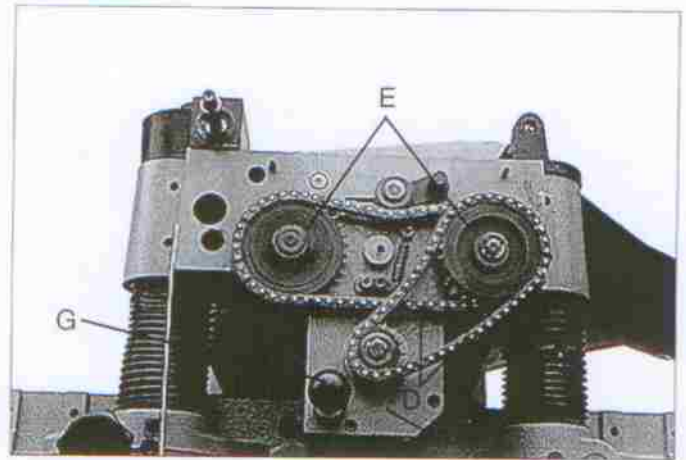
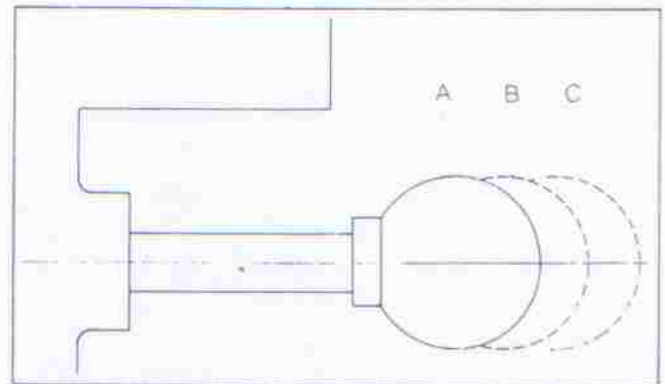

Fig.33
Fig. 34
Your machine is equipped with a spiral ,serrated infeed roller and a solid steel outfeed roller. When the feed rollers are engaged, they turn to feed the stock. The feed rollers slow automatically when the machine is under heavy load for best planing under all conditions. The feed rollers are driven by chains (D) Fig.33 and the sprockets (E), which takes power directly from the cutterhead through the oil bath gear box (F) Fig.33
There are two feed speeds in the gear box by using the shift lever (G) Fig.33 to pull out or push in, and the feed speed range as shown in Fig.34.
Shift gears handle shown as Fig.34. There are three kinds of operations of gear box by using shaft handle to pull or push. In the position A feed roll is operating on rate 20 FPM, shown as Fig.16. In the position B feed roll is operating on rate 0. In the position C feed roll is operating on rate 16 FPM.